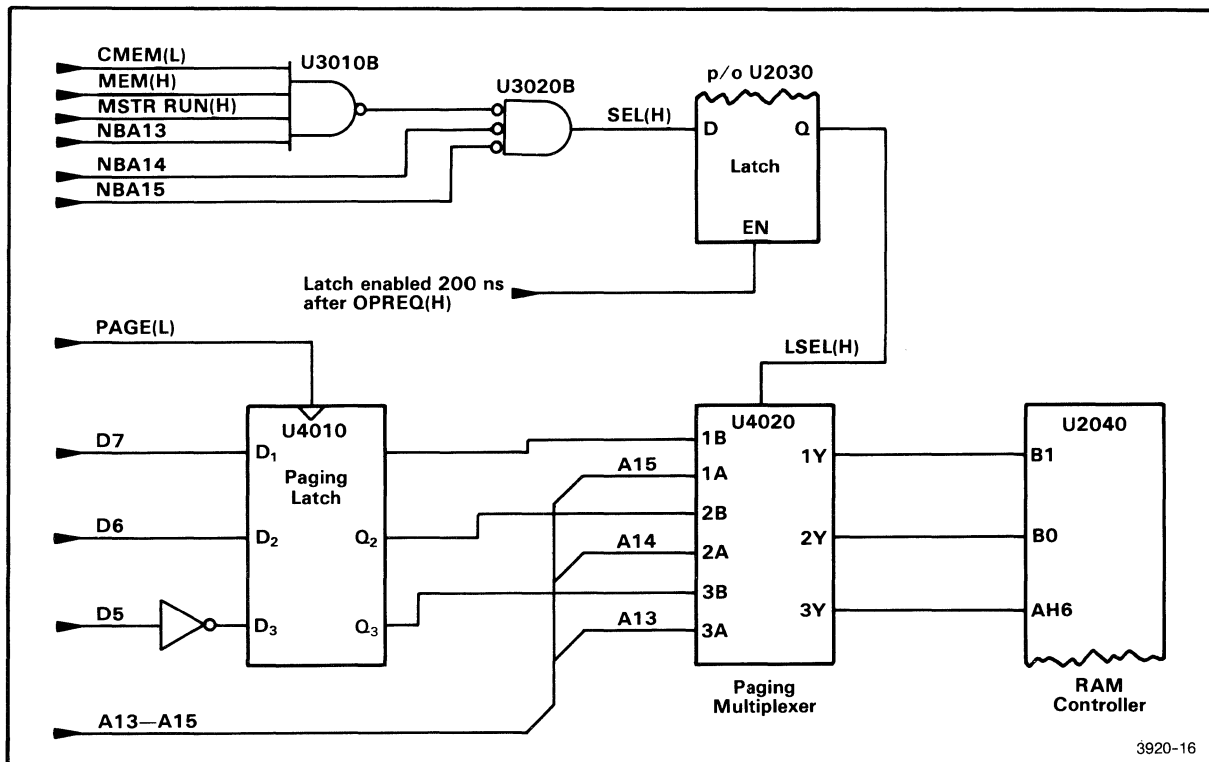

Fig. 16-3. Page Switching logic.
Figure 16-3 is a simplified schematic diagram of the page switching logic. I/O port address D3 is the page switching port. When address D3 is on the address bus, PAGE(L) goes low and clocks Paging Latch U4010. The data inputs to U4010 are presented to the "B" inputs of Paging Multiplexer U4020. Address lines A13--A15 are presented to the "A" inputs of U4020. Address lines A13--A15 are presented to the "A" inputs of U4020.